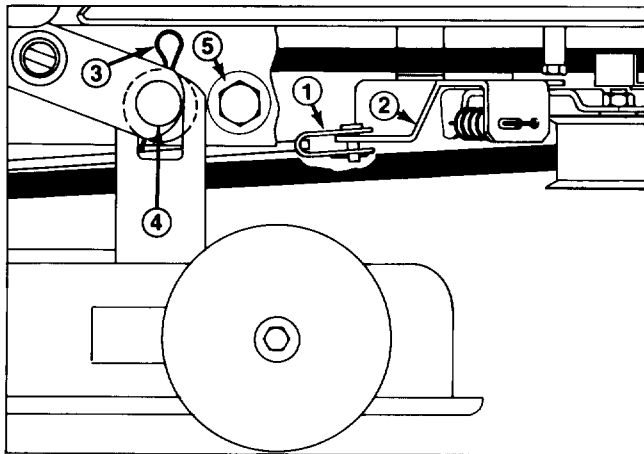

Figure 18
Check cutter blade every time rider is tipped on end. If lock nut holding blade is loose, tighten it to 45-60 ft-lb. If blade or sail (Fig. 18) at end of blade is worn, eroded, or cracked, replace the blade. Replace the blade if it is bent or out-of-balance. Always use genuine TORO replacement blades to assure safety and optimum performance. **NEVER USE WILL-FIT REPLACEMENT BLADES.**
9. Remove cotter pin and clevis pin securing deck brake rod to idler bracket (Fig. 18).
10. Remove (2) hairpin cotters and washers retaining mower housing to mounting pins (Fig. 18). Grasp mower housing and move it to the side until housing slides off pins, then forward to allow front mounts to drop.
5. Remove capscrews, retainers and locknuts securing deck stops to each side of mower frame (Fig. 18). Slide mower housing rearward to release belt tension.